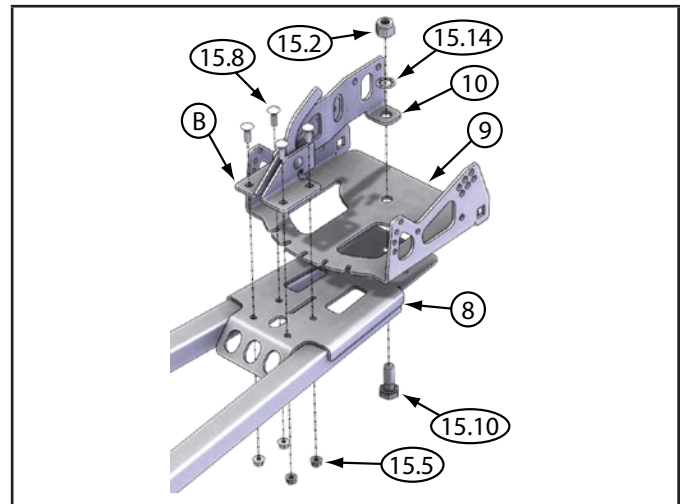

Figure 5 - Angle Plate and Angle Lever Assembly Install
2. Install angle lever assembly (B) to the tube weldment (8) as shown in Figure 5. Use the 5/16 x 1 in. (7.9 x 25.4 mm) standard carriage bolts (15.8) and 5/16 in. (7.9 mm) nuts (15.5) to secure the left and right handle plates. Tighten down bolts.
3. Secure the pivot plate (9) to the tube weldment (8) and hook plate (10) using the 5/8 x 13/4 in. (15.9 x 44.5 mm) structural bolt (15.10), 5/8 in. (15.9 mm) lock washer (15.14) and 5/8 in. (15.9 mm) lock nut (15.2) as shown in Figure 5. Tighten down nut and bolt so that the plate will pivot with ease but is not loose.